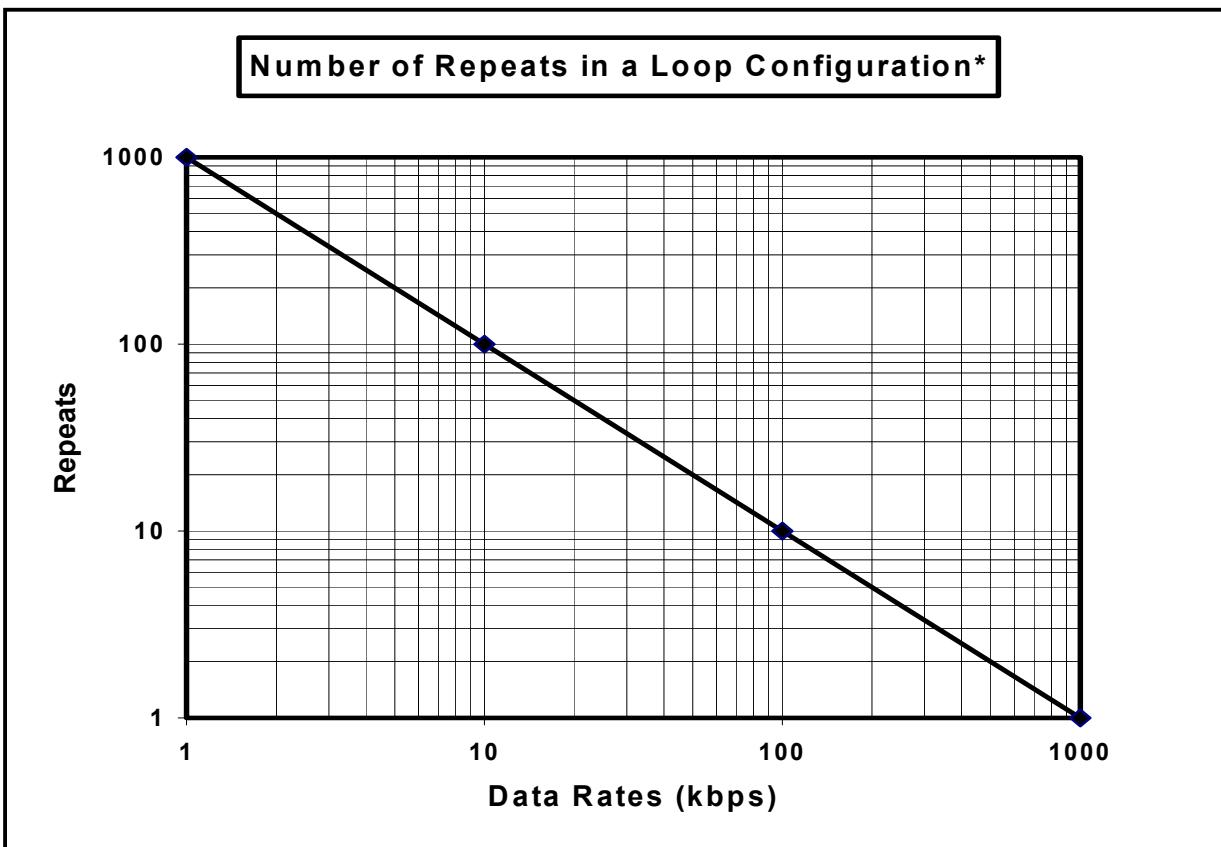

FIGURE 10. Number of Repeats
Figure 10 shows the maximum number of repeats possible if 70% of the original pulse width is required by any IED in the loop. The acceptable percentage of the original pulse width is due to the requirements of the IED's. If more or less of the original pulse width is necessary or less is allowable, then the number found in Figure 10 can be modified. Table 2 shows the factors to be used to correct the number of repeats found in Figure 10 for such cases.
*initial: 100 repeats (from Figure 10)*